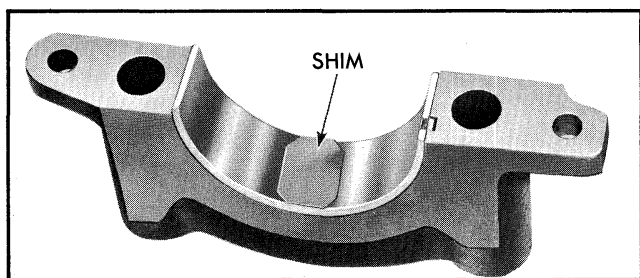

Fig. 6-133 .002 Shim Positioned in Cap for Checking Bearing Clearance
1. Place a .002" brass shim between the crankshaft journal and the lower bearing in each bearing cap next to the one being checked (Fig. 6-133).